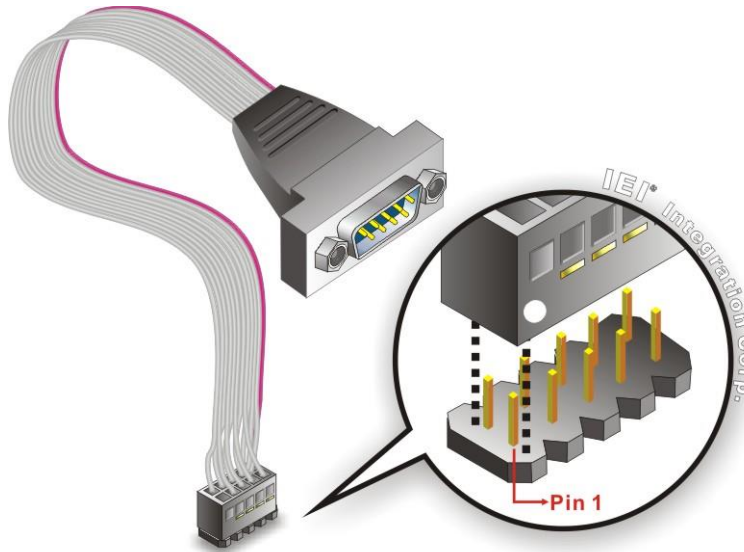

Figure 4-12: Single RS-232 Cable Installation
Step 2: **Insert the cable connector.** Align the cable connector with the onboard connector. Make sure pin 1 on the board and connector line up. Pin 1 on the cable connector is indicated with a white dot. See **Figure 4-12**.